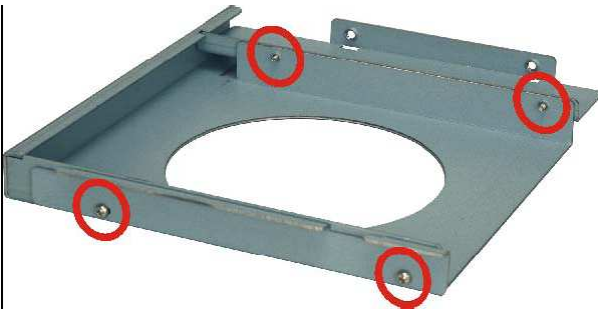

Figure 3-8: CD Drive Blank Plate Assembly
Step 6: The CD drive blank plate assembly consists of a blank plate and two brackets that attach the assembly to the chassis. The two brackets each have two screws that attach them to the blank plate. **Figure 3-8** shows the underside of the CD drive blank plate assembly with the four screws to be removed.